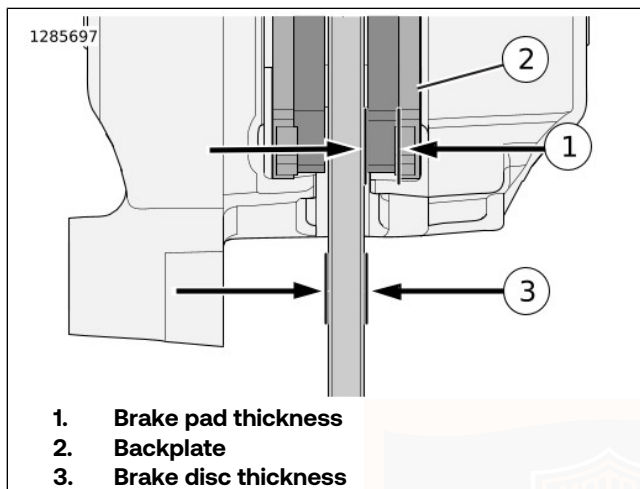

Figure 56. Brake Thickness
2. See Figure 56. Measure the thickness of the brake pad friction material.